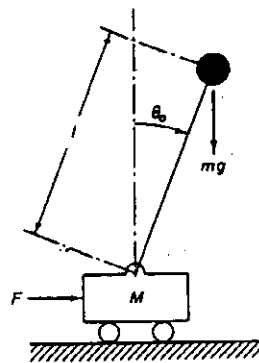

Fig. 5. Inverted pendulum mounted on a motor-driven cart.
5. In Fig. 5. This is a model of the attitude control of a space booster on takeoff. The objective of the attitude control problem is to keep the space booster in a vertical position. The actual space booster (or the inverted pendulum in this problem) is unstable in that it may fall over any time in any direction unless a suitable control force is applied. Here we consider only a two-dimensional problem so that the pendulum in Fig. 5 moves only in the plane of the page.